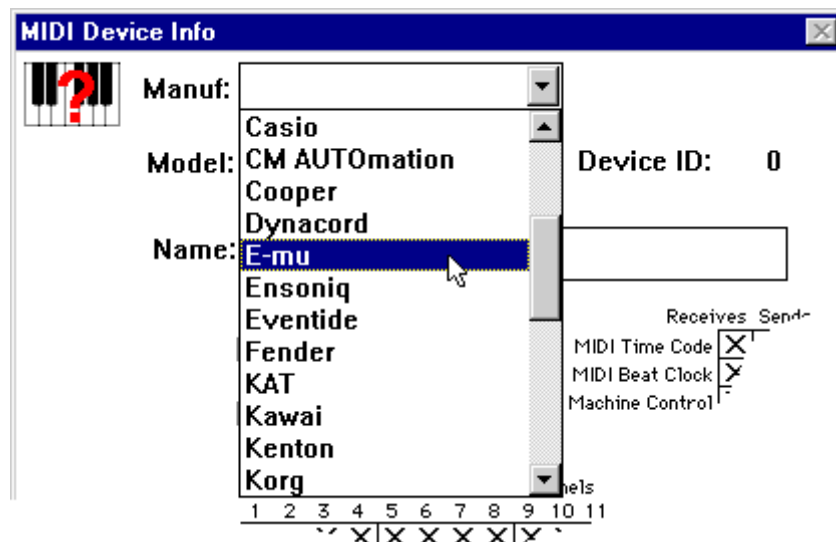

Figure 8: Select a Manufacturer
- ① Click the **Manuf** arrow button to open its drop-down list box, then select the manufacturer of the MIDI device (as shown in Figure 8).